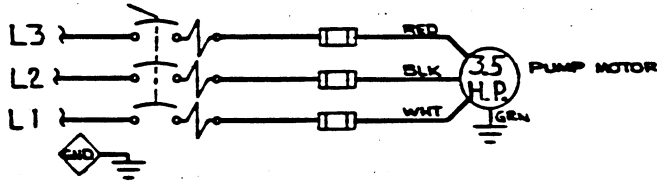
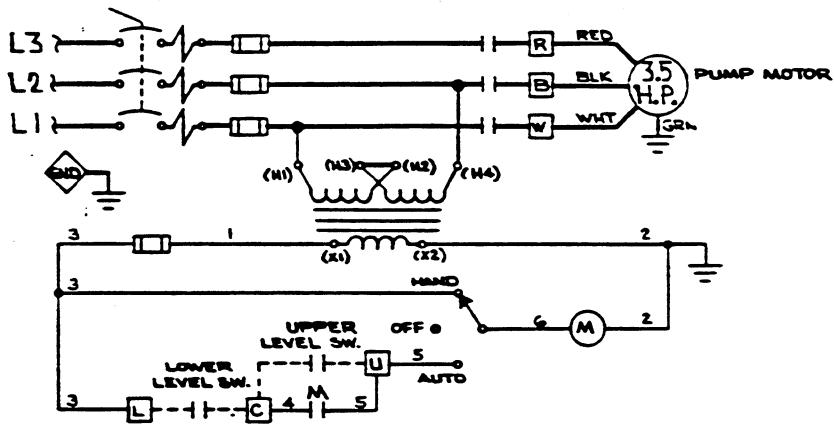
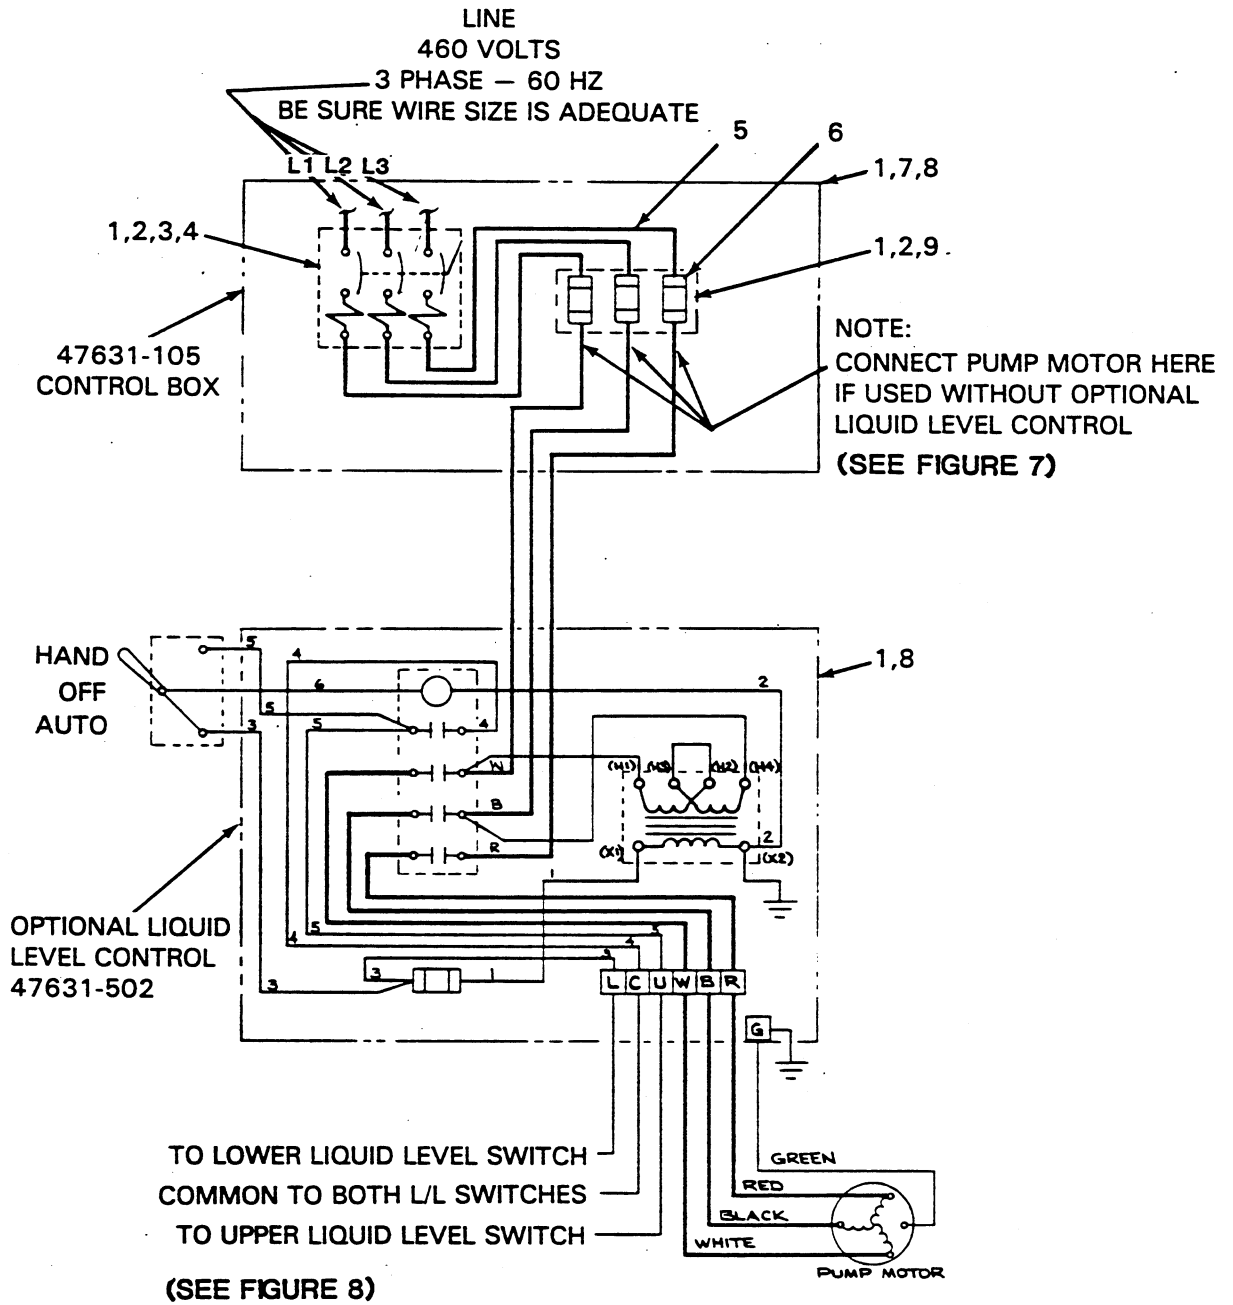

Figure 7. Elementary Wiring Diagram (Without Liquid Level Controls)
Figure 8. Elementary Wiring Diagram (With Liquid Level Controls)
Figure 9. 47631-105 Control Box Assembly - Pictorial Wiring Diagram
- a. Measure the incoming voltage across lines (1 & 2, 2 & 3, and 1 & 3) while the pump is **operating at full capacity**. See Figure 7 on page B-15 or Figure 9 on page B-16.
Connect the pump power cable to the control box as shown in Figure 7 on page B-15 or Figure 9 on page B-16. Use conduit or cable clamps to secure the power and accessory cables to the control box. Make certain that all connections are tight and that cable entry points are rainproof.
If liquid level controls are to be installed, connect the motor power cables and level control power cables as shown in Figure 8 and Figure 9 on page B-16.
See Figure 9 on page B-16 for a pictorial wiring diagram and callouts of the control box assembly internal parts.